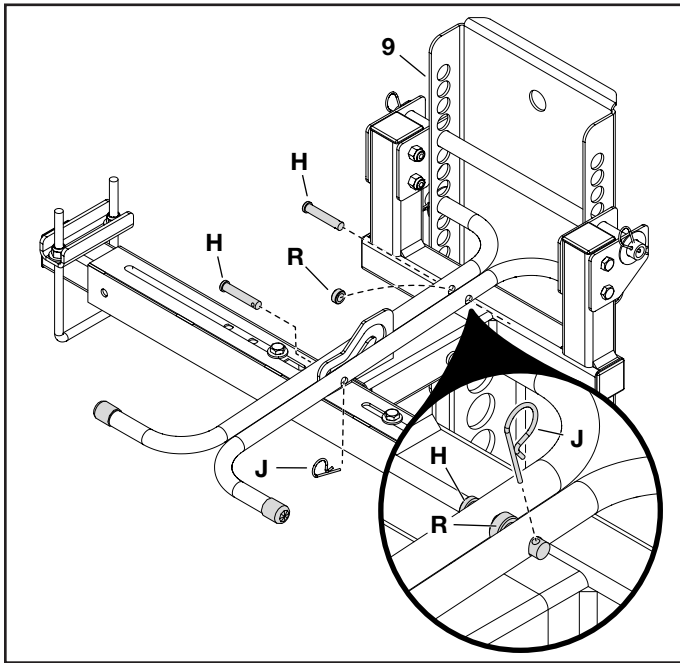

FIGURE 7
STEP 7: (SEE FIGURE 7)
- Attach the two push tubes (1) together using a clevis pin (H) and a spacer (R) between the push tubes at the end closest to the bulkhead (9).
- Insert a second clevis pin (H) through the opposite side of the push tubes at the end furthest from the bulkhead (9).
- Secure each clevis pin using a hair cotter pin (J).